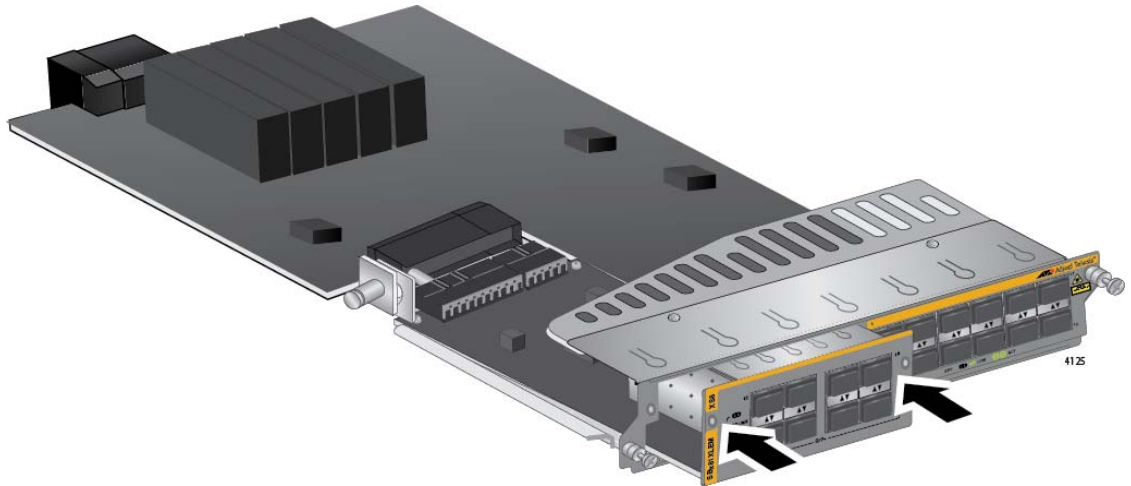

Figure 83. Seating the Expansion Module on the Connector in the AT-SBx81XLEM Line Card
- When the expansion module makes contact with the connector inside the line card, gently press on both sides of the faceplate to seat the module on the connector. Refer to Figure 83 on page 153. The module is fully installed when its faceplate is flush against the faceplate of the AT-SBx81XLEM Line Card.